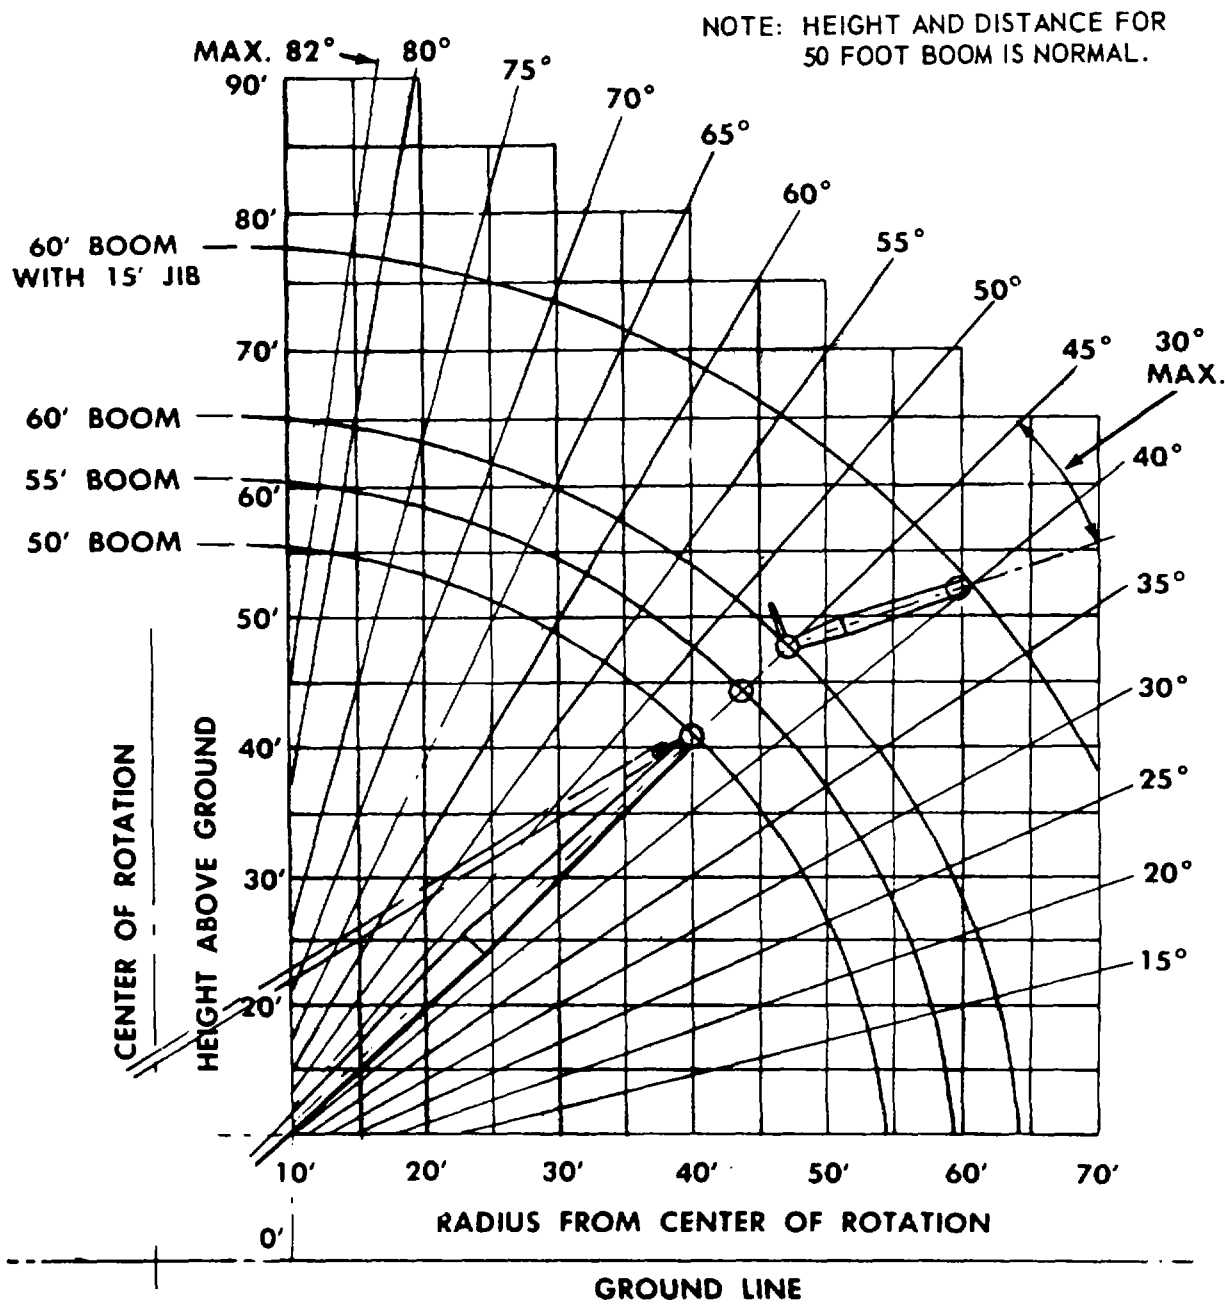

Figure 1-3. Crane and jib working ranges. ME 3810-201-12/1-4
(19) Cable lengths, diameters, and use. Refer to table 1-2 for cable lengths for front end attachment to be used.
(20) Crane and jib working ranges. Refer to figure 1-3 for various crane and jib working ranges.